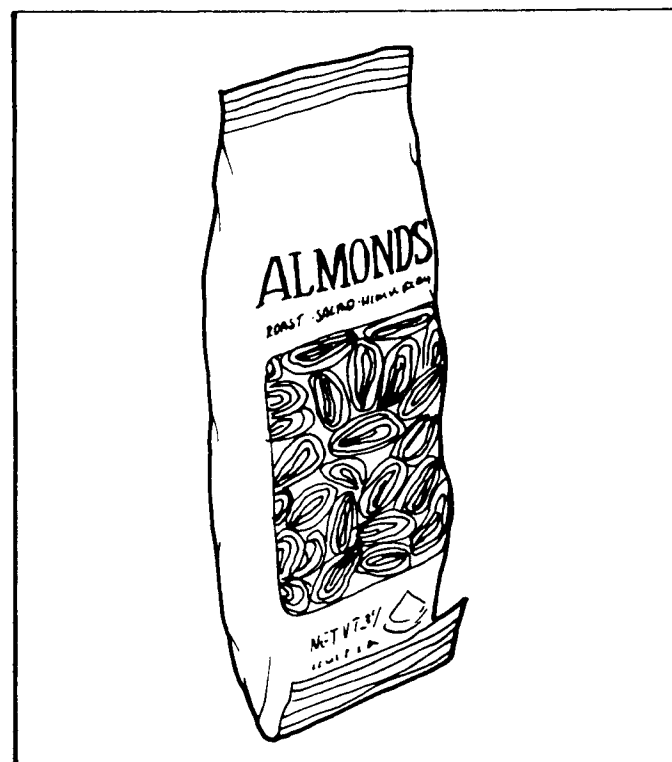

Figure 8. FOLD BAGGED ITEMS BOTTOM EDGE FORWARD AND UP.
10. **BAGGED OR BOXED ITEMS** in the 10-selection shelves if not loaded properly could be a problem. The sealed edge of the bag may get under the spiral wire causing the product to hang up after it has been vended. It is recommended that the lower edge of these types of product be folded forward and up (see Figure 8) next to the product before inserting into the spiral space. It is also recommended to use an 18 count spiral for bagged items because of the product settling to the bottom of the package.